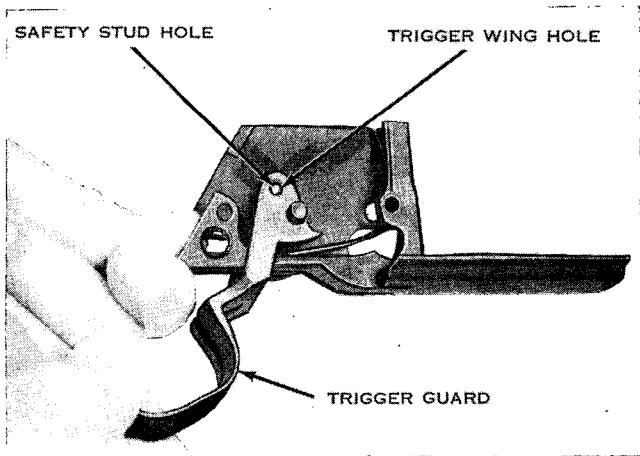

Figure 25. Removing the trigger guard.
right hand until the hammer stop inside of the right wing clears the base of the trigger housing. Remove the trigger guard (fig. 25).
b. To replace the trigger guard, hold the trigger housing as shown in figure 25. Place the wings of the trigger guard astride the base of the trigger housing so that the hammer stop, on the inside of the right wing, clears the base. Turn the trigger guard down and to the left until the holes in the wings are under the safety stud hole. Slide the trigger guard forward until the holes in the wings are alined with the hammer pin hole.